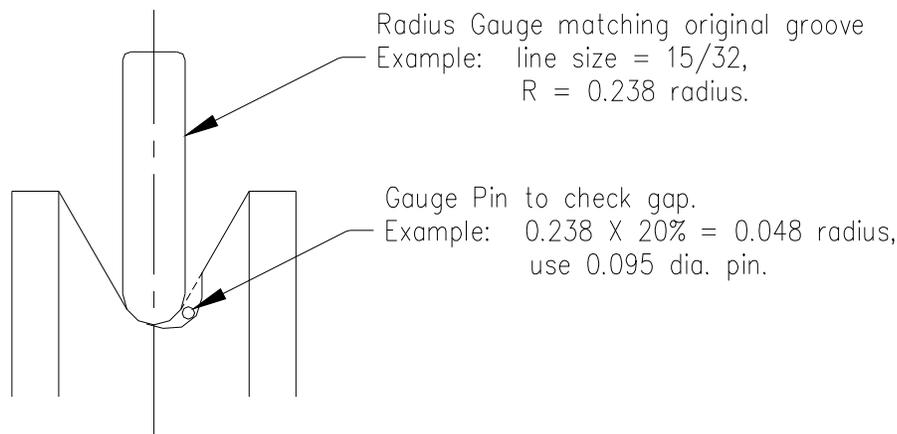

Figure 1. Wheel Groove Inspection
- Inspect the wheel groove for wear. See figure 1. Insert a radius gauge corresponding to the original groove size listed in doc. # WTI-16. If the groove has worn more than 20% from its original form, recommend wheel re-grooving to the customer. Wheels can be re-grooved up to 0.250" deeper than their original diameter. If the wheel cannot be re-grooved within this depth recommend wheel replacement.